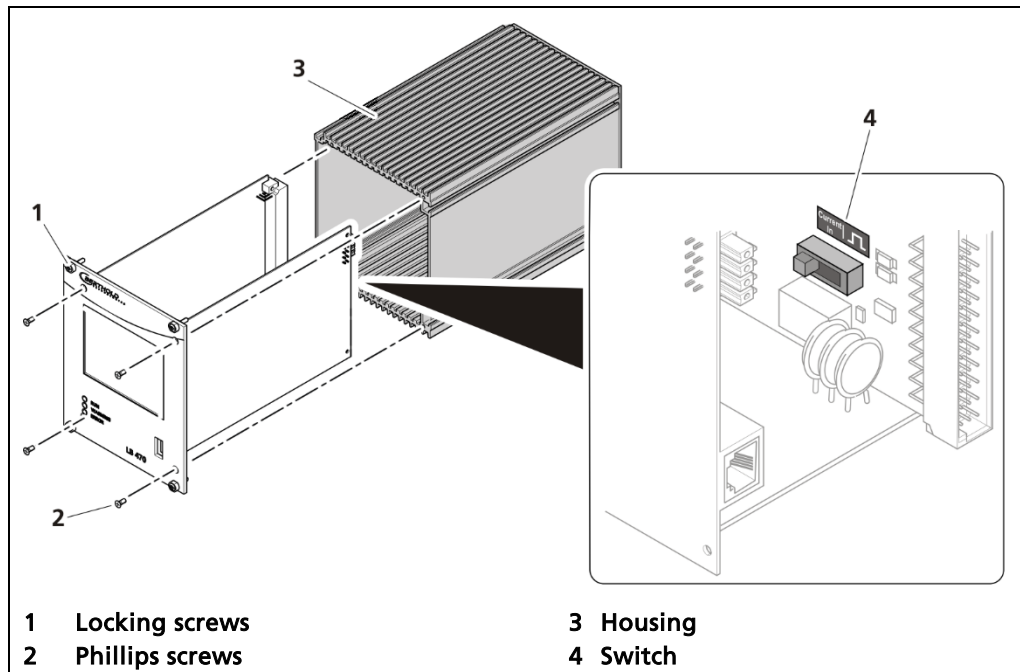

Fig. 19 Tacho switch on the board
2. Loosen the four locking screws (Fig. 19, item 1) and pull the EVU out of the wall housing or the subrack.
3. Remove the four recessed phillips screws (Fig. 19, item 2) on the front of the EVU.
4. Pull out the housing (Fig. 19, item 3) carefully.
5. Set the switch to "CURRENT IN" position (Fig. 19, item 4).